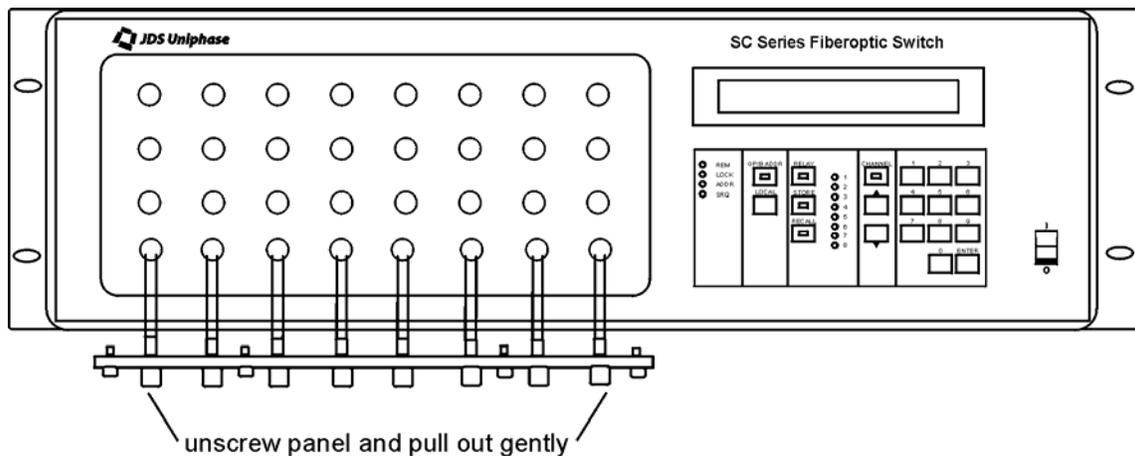

Figure 14: Removing the Connector Panel
1. Loosen the retaining screws of the connector panel (Figure 14).